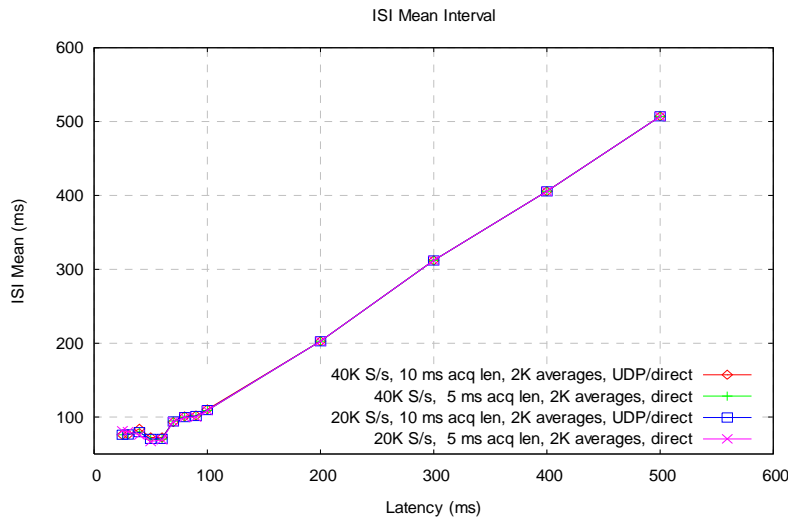

Figure 7: Mean ISI versus latency for a family of sample rates and acquisition times
Figure 7 shows parametric curves of mean ISI.
- Figure 7 displays a near linear relation between ISI and latency. The relation is valid down to latency values of 90 ms. Below 90 ms, the ISI values "bottom-out" at around 75 ms. The standard deviation values hover around 5 ms for latency values > 100 ms; below 100 ms, the standard deviation can increase by a factor of 3.